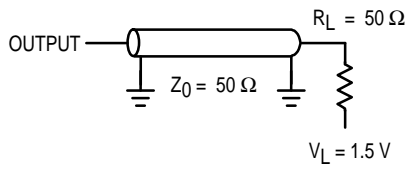

Figure 1A
Output Load See Figure 1A Unless Otherwise Noted
- A latched write cycle is defined by DL transitioning low during the write cycle and satisfying the specified hold time for the rising edge of clock (K).
- Into rated load of 85 pF equivalent resistive load (see Figure 1A).
- This is a synchronous device. All synchronous inputs must meet the specified setup and hold times with stable logic levels for all rising edges of clock (K) or falling edges of data latch enable (DL).